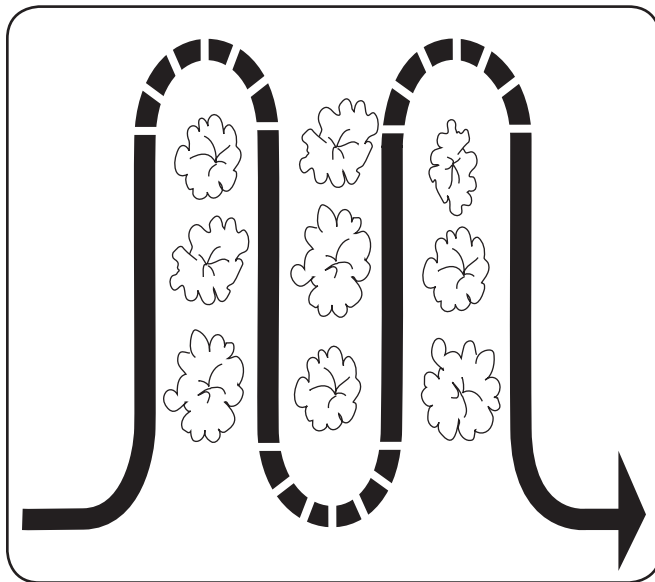

Figure 5-4
- When cultivating (breaking up surface soil around plants to destroy weeds, see Figure 5-4), Adjust the tines to dig only 1” to 2” deep. Using shallow tilling depths helps prevent injury to the plants whose roots often grow close to the surface. If needed, lift up on the handlebars slightly to prevent the tines from digging too deeply. (Cultivating on a regular basis not only eliminates weeds, it also loosens and aerates the soil for better moisture absorption and faster plant growth.) Watering the garden area a few days prior to tilling will make tilling easier, as will letting the newly worked soil set for a day or two before making a final, deep tilling pass.